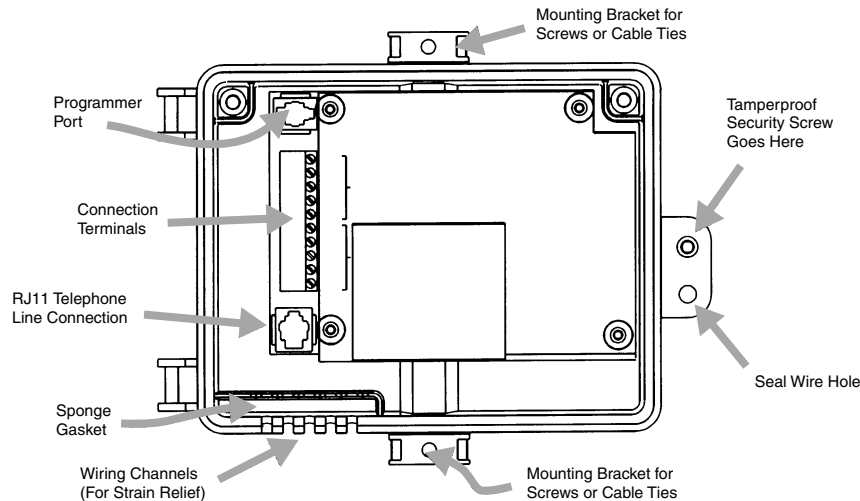

Figure 2 – MIU with Protective Cover Removed
- e. Connect MIU end of cable to desired port of MIU as marked on inside MIU protector plate. (Red to R; Black to B; Green to G) for Sensus encoder registers. Be sure to check that insulation is not trapped under screw of terminal block and no bare wires are making unintended contact. **(Figure 2)**
- f. If optional TouchRead TouchPad is used, connect two-conductor cable to position marked "TP" on MIU protector plate with desired port. **(Figure 2)**